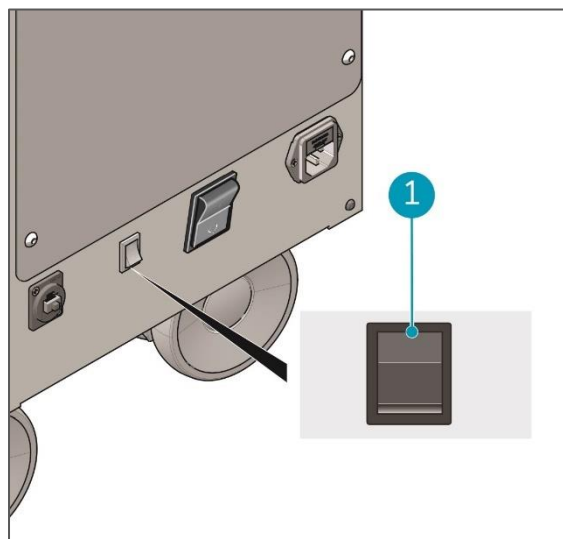

Figure 9
1. Press the front logo lighting switch to turn on the front logo lighting (Figure 9, pos. 1).
2. Press the front logo lighting switch again to turn off the front logo lighting (Figure 9, pos. 1).